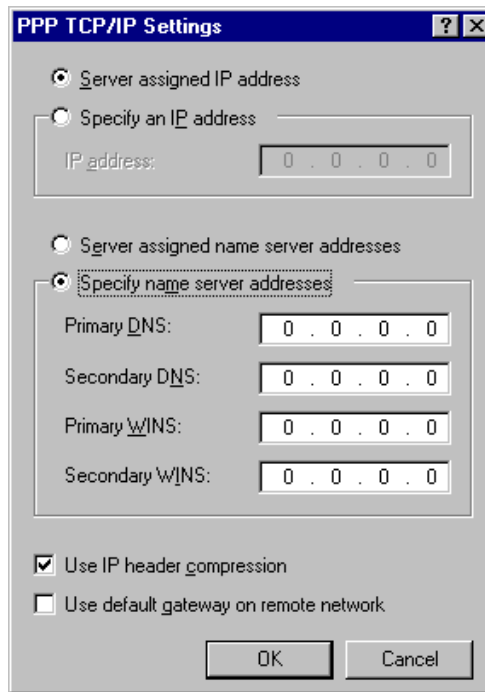

Figure 4-11. Define TCP/IP Settings
7. Click the "TCP/IP Settings" button (see Figure 4-11). Select the "Server assigned IP address" option. The client will automatically get an IP Address from the HP TopTools Remote Control card. Check "Specify name server addresses" and make sure all DNS and WINS entry fields are set to zero (0). Uncheck "Use default gateway on remote network." Click OK.